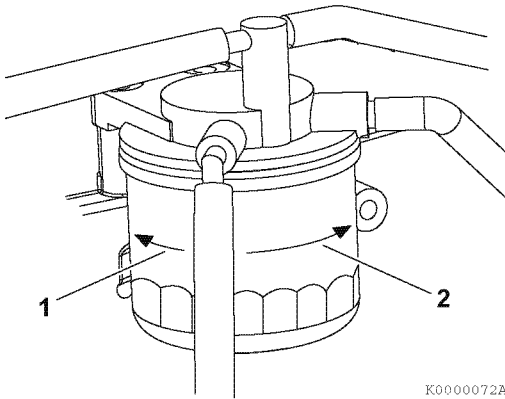

Figure 5-13
3. Remove the fuel filter with a filter wrench, turning it to the left (**Figure 5-13, (1)**). When removing the fuel filter, carefully hold it to prevent the fuel from spilling. Wipe up all spilled fuel.
5. Install the new fuel filter. Turn to the right (**Figure 5-13, (2)**) and hand-tighten it only until it comes in contact with the mounting surface. Tighten to 14 - 17 ft·lb (19.6 - 23.5 N·m; 2.0 - 2.4 kgf·m) or one additional turn using the filter wrench.